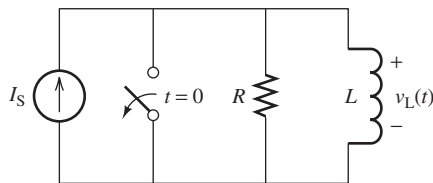

FIGURE P5.18 Circuit for Problem 5.18.
5.18 (A) Find the expression for $v_L(t)$ in Figure P5.18. (The switch is opened at $t = 0$.) $i_L(0) = 0$.